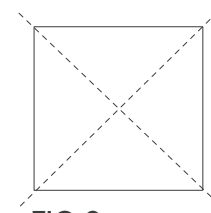

FIG 2
- (1) $13\frac{1}{4}$ " x $8\frac{1}{4}$ "
- (3) 12" x WOF, subcut:
- (8) 12" x 12" for ST, cut twice diagonally (Fig 2)